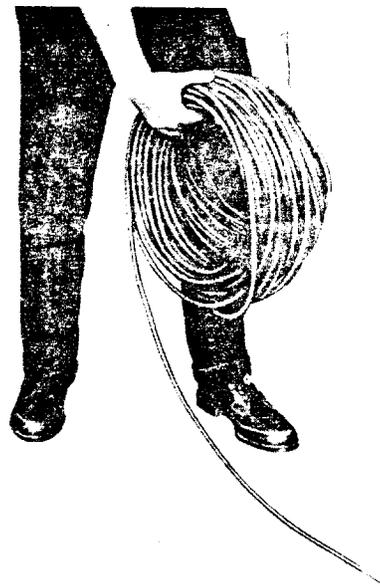

Fig. 3—Paying Out D Inside Wiring Cable
2.03 To pay out station cable from loose coil, remove cable from coil by paying it off from outside of coil (Fig. 3).